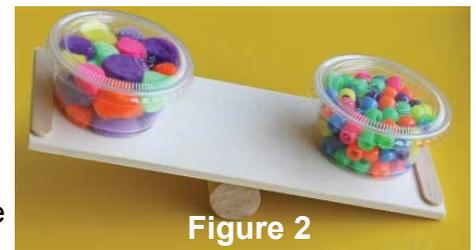

Figure 2
5. If you don't have a scale you can make a balance scale that will compare two items for weight (Figure 2) and then comparing each item you should be able to determine the lightest to the heaviest. (see **Build A Balance Scale** at end of lesson)